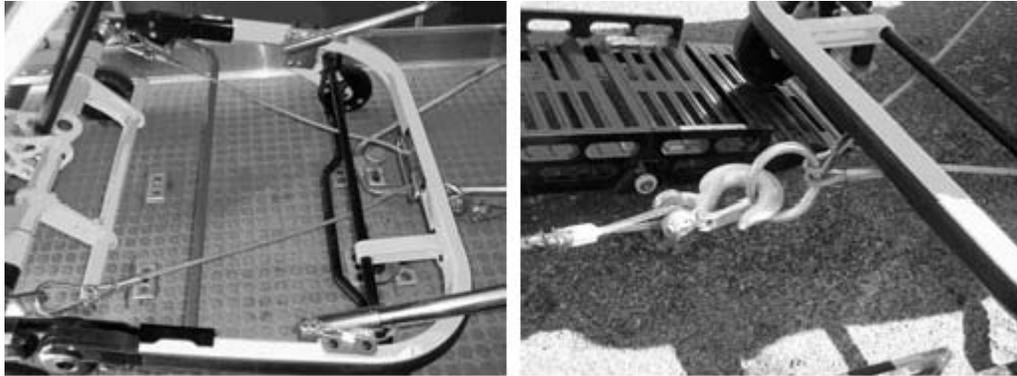

Figure 16 - Tow harness loop bracket attached to inner rail. Tow ring and winch hook.
- 3 Make sure the tow ring runs through the tow harness loop bracket. The bracket is attached to the center of the breakaway head assembly's outer rail. Later, the tow ring will be used to connect the winch cable by a single clip. See figure 16.